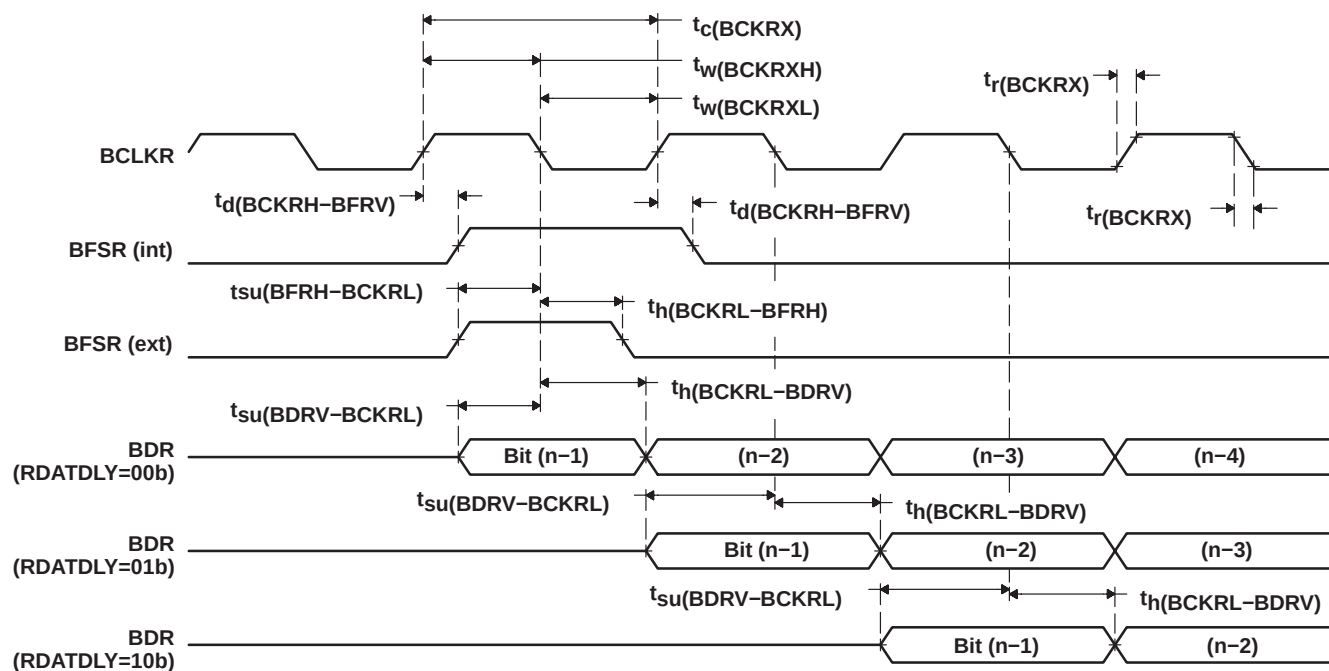
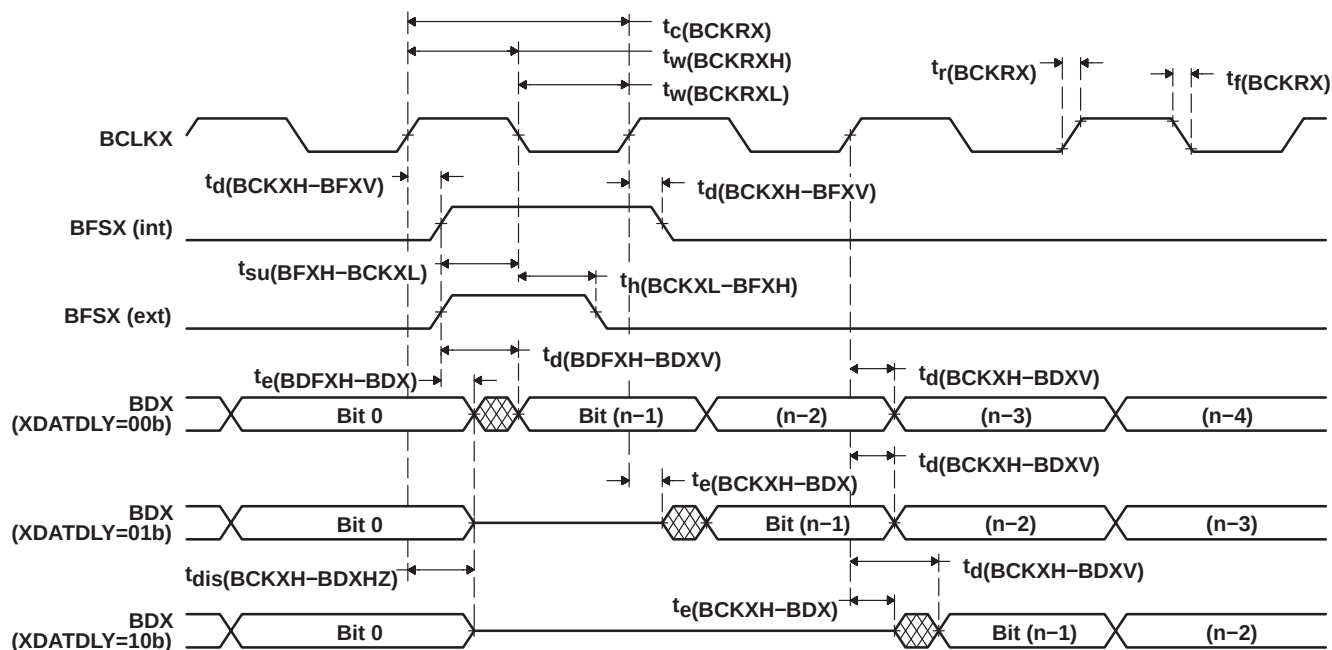

Figure 28. McBSP Receive Timings
Figure 29. McBSP Transmit Timings
timing requirements for the McBSP† [ $H=0.5t_{c(CO)}$ ] (see Figure 28 and Figure 29)
**switching characteristics for the McBSP† [ $H=0.5t_{c(CO)}$ ] (see Figure 28 and Figure 29)**